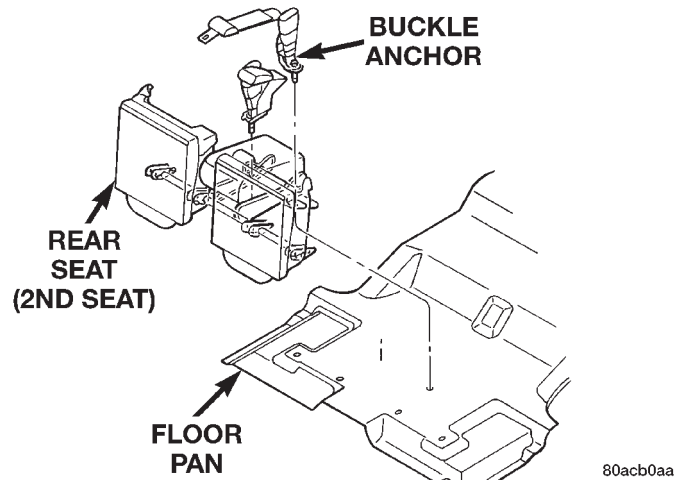

Fig. 92 2nd Row Seat Belt/Buckle
- (1) Move 2nd row seat to forward tumble position.
- (2) Remove bolts attaching seat belt/buckle anchors to floor pan (Fig. 92).
- (3) Separate seat belt/buckle from vehicle.
- (1) Position seat belt/buckle in vehicle.
- (2) Install bolts attaching seat belt/buckle anchors to floor pan (Fig. 92). Tighten bolts to 95 N·m (70 ft. lbs.) torque.
- (3) Move and latch 2nd row seat to seating position.